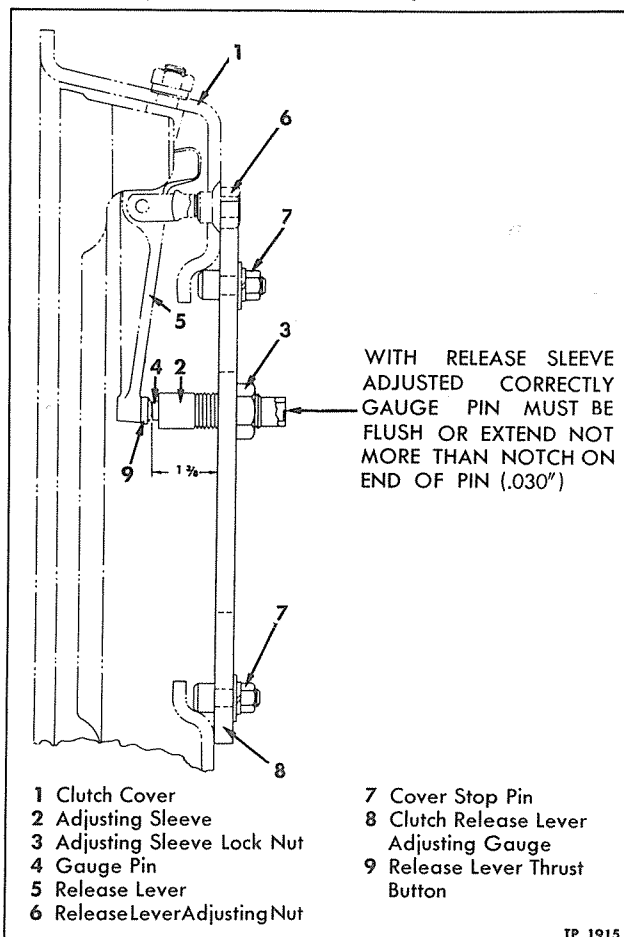

Figure 11 —Clutch Release Lever Adjusting Tool
A closer adjustment may be obtained by using an adjusting tool (CS-1420) such as illustrated in figure 11. "Specifications" at end of this section apply when new driven disc and facings assembly of specified thickness is used.
a. With gauge pin flush with outer end of sleeve, thread adjusting sleeve in or out as necessary to obtain the dimension as shown in figure 11. Lock sleeve in position with lock nut.